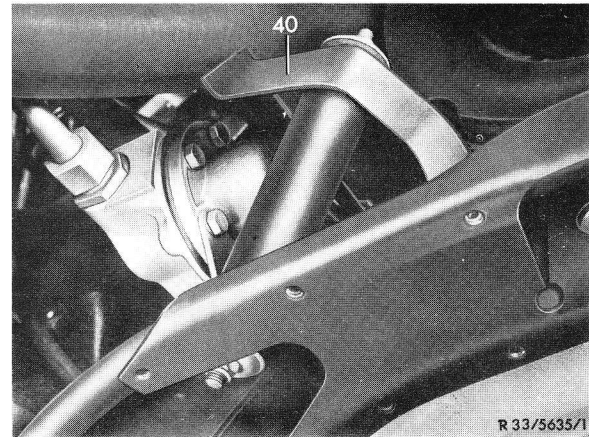

Fig. 2
- 1 Unscrew engine damper on holder (40) and front axle carrier (Fig. 2).